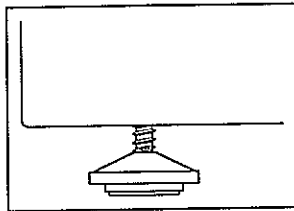

Fig. 1
- Place your appliance on a floor that is strong enough to support the appliance when it is fully loaded. To level your appliance, adjust the legs at the front of the appliance (Fig 1).